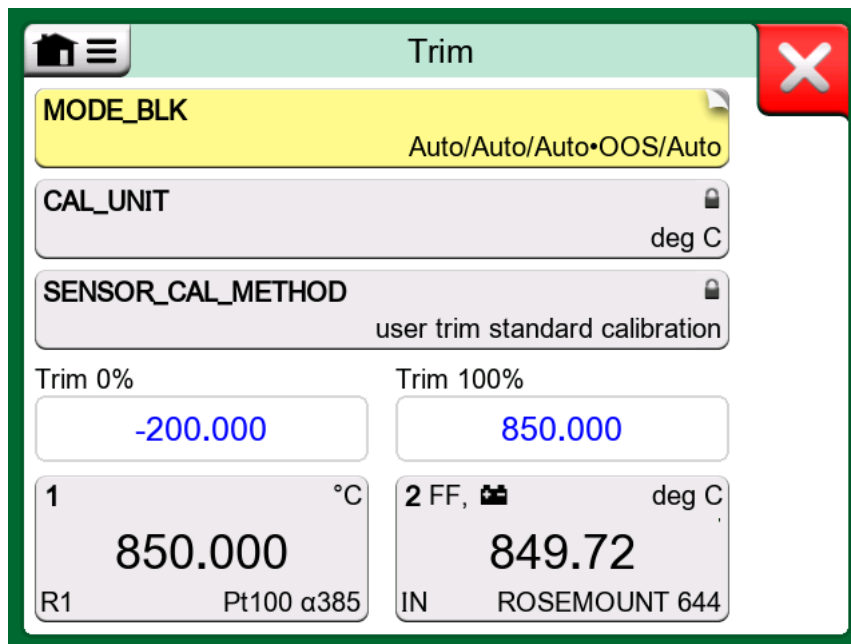

Figure 168: Fieldbus instrument Trim window example
The **Start Trimming** menu option opens a window similar to the Figure 168: Fieldbus instrument Trim window example. The list of Blocks and Parameters displayed depends on instrument's Device Description file. The lower part of the window will display channels showing the instrument's input (1) and output (2) readings.